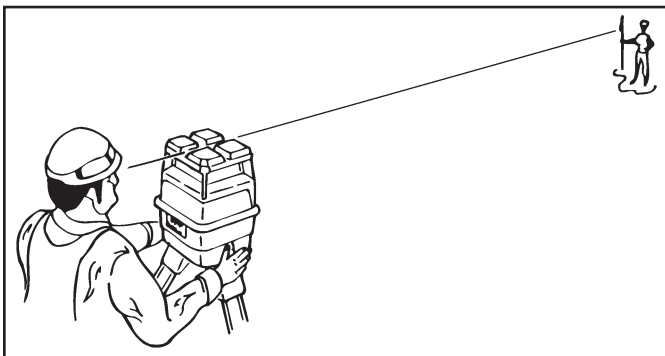

Figure 5. Sight over Rotating Laser
5. Roughly align one of the axis to the grade stakes by sighting over the top of the Rotating Laser (Refer to Figure 5).
4. Roughly align one of the axis to the grade stakes by sighting over the top of the Rotating Laser (Refer to Figure 5).